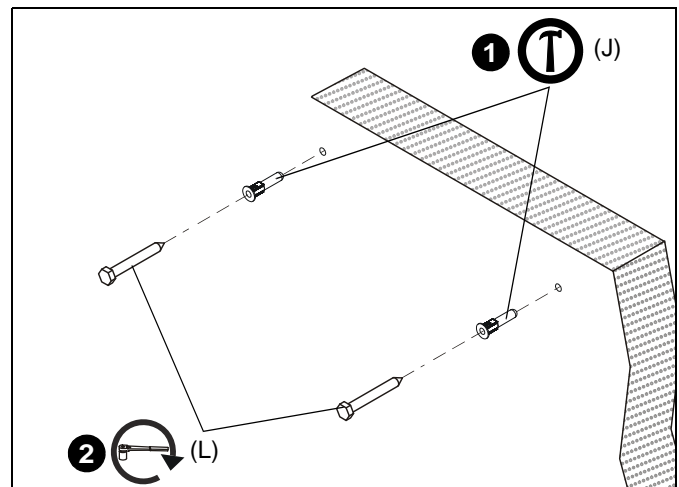

Figure 24
1. Install one UX10 x 60 anchor (J) into each pilot hole using a hammer, making sure that the anchor is flush with the wall. (See Figure 24)
2. Use one 5/16" x 2-1/2" lag bolt (L) through product into each anchor in wall.